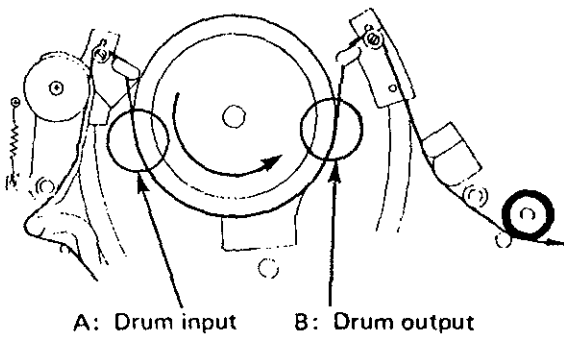
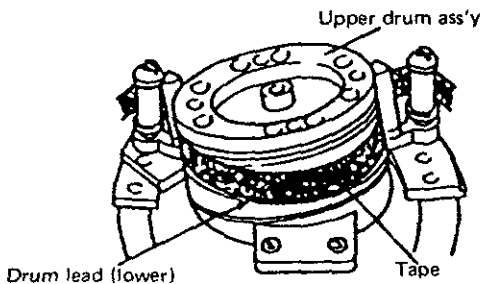

Fig. 19 Tape transport check
Fig. 20 Drum lead check - 1
2. During Play mode, observe tape at the input and output portions (A and B in Fig. 19) of the head drum lead. Confirm that the tape slips neither upward nor downward with respect to the lead as shown in Fig. 20.